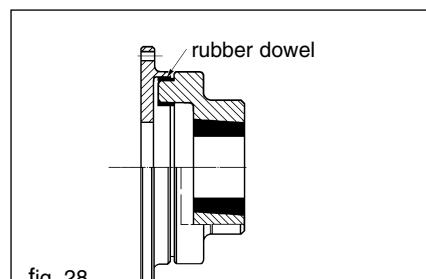

fig. 28
12.12 Replacing the rubber dowels of flexible couplings (GBF) (fig. 28)